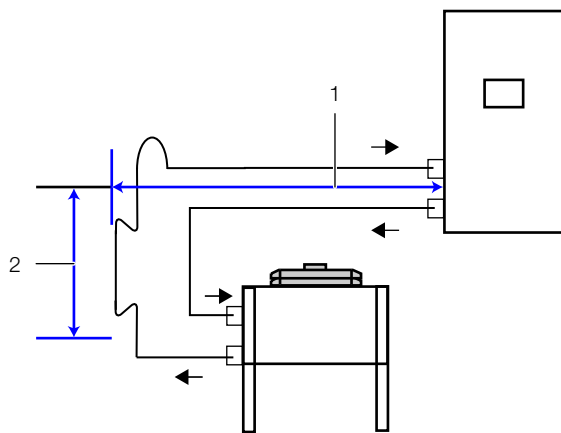
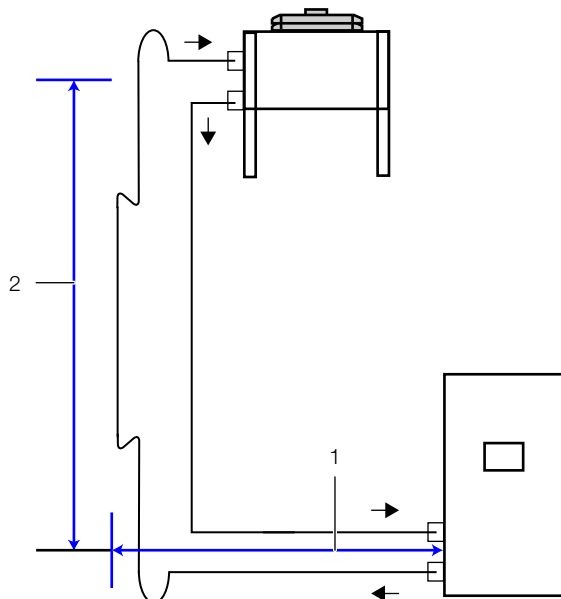

Fig. 8: Relative positioning condenser below the LCP DX
Fig. 9: Relative positioning above the LCP DX
Sum total of horizontal (fig. 8, item 1) and vertical spacing (fig. 8, item 2 or fig. 9, item 2) between the LCP DX and the condenser	Max. 60 m equivalent length
Condenser above LCP DX (fig. 9, item 2)	max. 20 m
Condenser below LCP DX (fig. 8, item 2)	max. 3 m